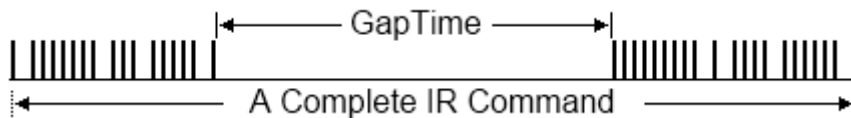

Figure 3-5 A complete IR Command with a large Gap Time.
- [7] **GapTime** : The max space time in an IR protocol (Fig. 3-5). For example,